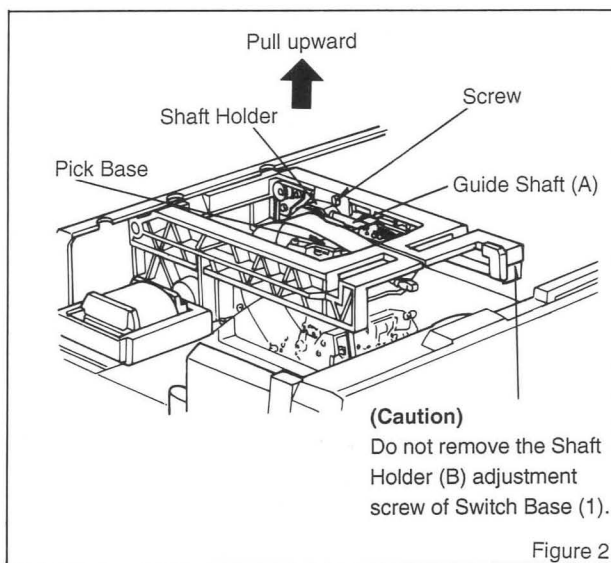

Figure 2
① **Pick Base**
2. Set Guide Shaft to Pick Base, mount Pick Base downward to Traverse Base and secure the Shaft Holder with a screw (Refer to Figure 2).